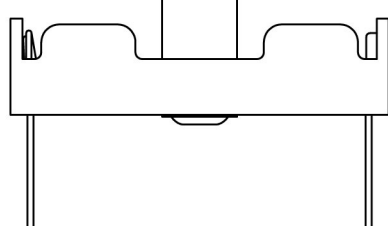

FIG. 15
5. Pull up battery retention ribbon located under batteries to unseat batteries as shown in FIG. 15. Dis-
6. Insert the new battery as noted on the battery holder. Press down firmly on the battery. See FIG. 15 to identify the negative and positive sides of the battery.